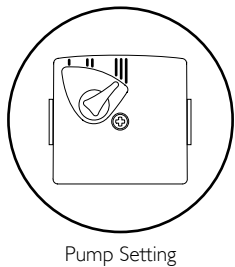

Fig. 88
3. A standard replacement Grundfos 15-60 head can now be fitted. Connect the pump wiring to the new head. **The pump speed must be set to 3** (Fig. 88).
14.15 Pump - Complete (Fig. 88)